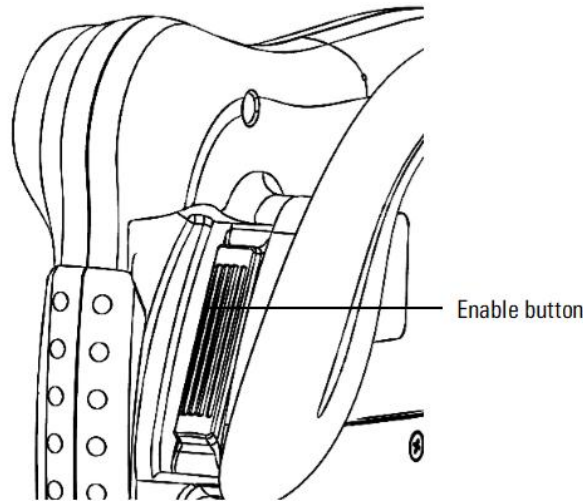

Figure 2-9 Teach pendant enable button
- Step2. Gently buckle the enable key (located on the right side of the teach pendant in Figure 2-9) to make it stay in the second key position, and the robot is then enabled(a "click" sound is heard). At the same time, the lightning icon in status bar is displayed as "⚡" (highlighted), the "Run" indicator of the control cabinet turns on, and then manual operation can be carried out (you need to keep pressing the enable key).